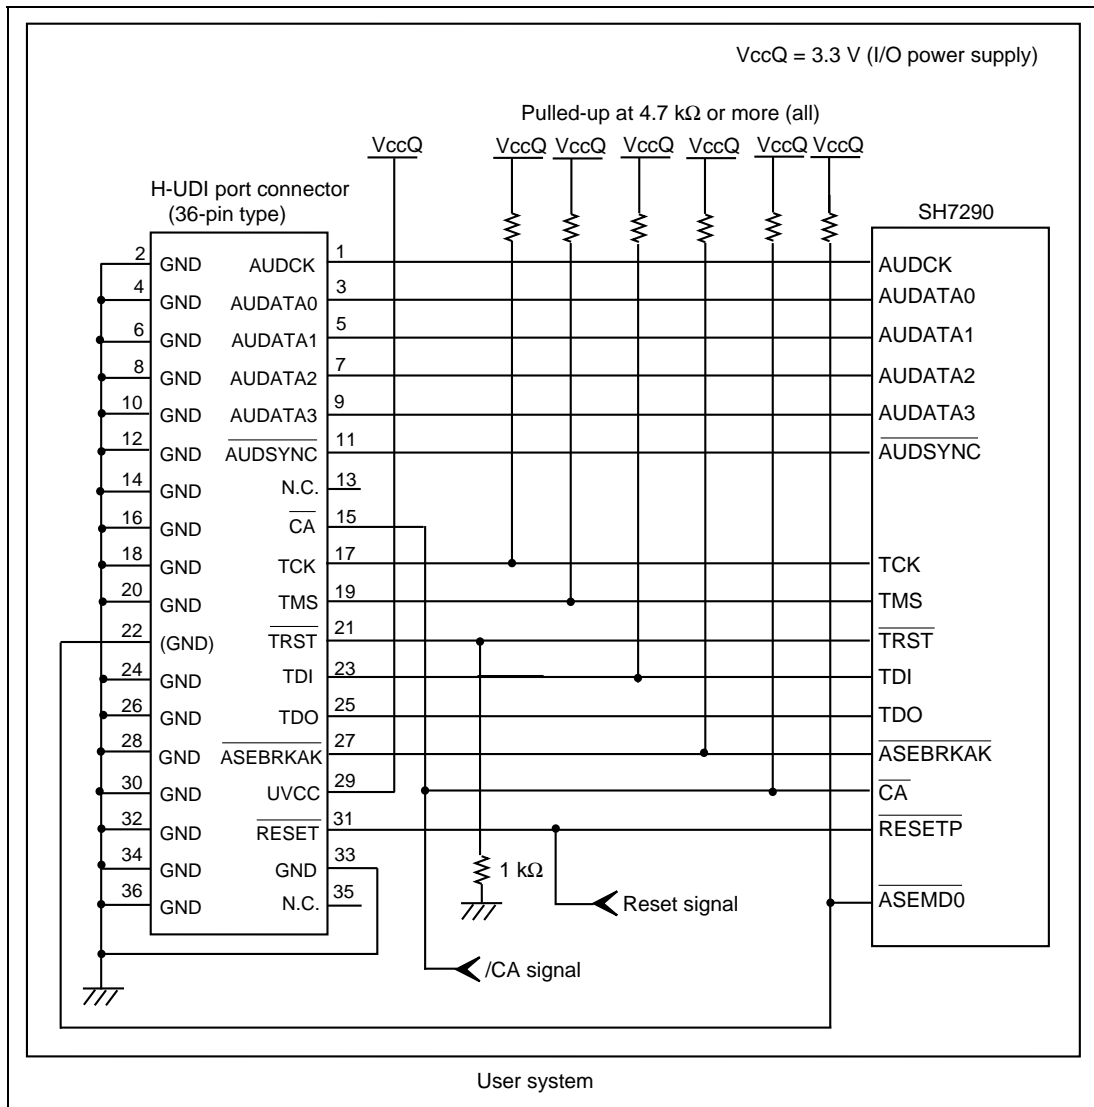

Figure 1.3 Recommended Circuit for Connection between the H-UDI Port Connector and MPU when the Emulator is in Use (36-Pin Type UVCC Connected)
Figures 1.3 and 1.4 show recommended circuits for connection between the H-UDI port connector (36 pins) and the MPU.
(1) When the emulator is used: /ASEMD0 = 0 (ASE mode)
(2) When the emulator is not used: /ASEMD0 = 1 (normal mode)
Figures 1.3 and 1.4 show examples of circuits that allow the /ASEMD0 pin to be GND (0) whenever the emulator is connected by using the user system interface cable.
8. Supplying VccQ of the user system to the UVCC pin reduces the leakage current. A level shifter that is activated by the internal power supply or user power supply (changed by the switch) is installed in the interface circuit of the emulator. If the user power is supplied to the UVCC pin, the level shifter is not activated as long as no user power is supplied. When the power supply of the user system is turned off, no current flows from the user interface. The I/O voltage level of the user system interface can be the same as that of the VccQ. To operate the emulator with low voltage (lower than 3.3 V), the VccQ must be supplied to the UVCC pin. Make the emulator's switch settings so that the VccQ will be supplied (SW2 = 1 and SW3 = 1). With these settings, pin 29 is used as the UVCC pin. The /CA pin must be connected to pin 15 (as shown in figure 1.3).
When the circuit is connected as shown in figure 1.3, the switches of the emulator are set as SW2 = 1 and SW3 = 1. For details, refer to section 3.8, Setting the DIP Switches, in the Debugger Part of the SuperH™ Family E10A-USB Emulator User's Manual.